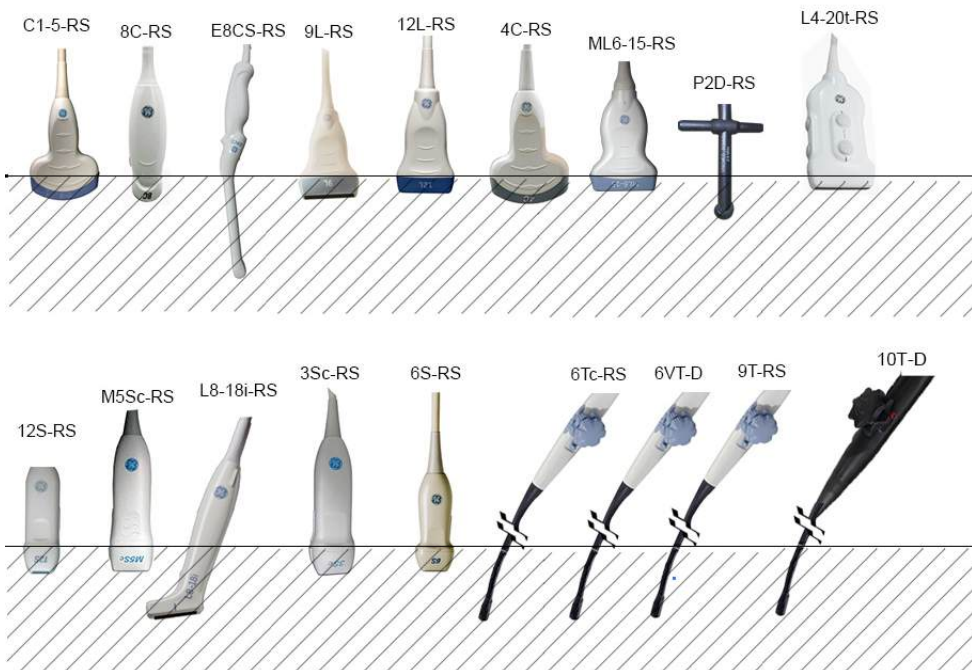

Figure 12-8. Probe Immersion Levels, 1=Fluid Level
1. Ensure the probe has been disconnected from the console. Put on a clean pair of gloves and fill a sink or basin with warm potable water (30 - 40°C) to a level allowing immersion of the probe up to the immersion line shown in Figure 12-8 on page 12-45.
3. Immerse the probe in the prepared cleaning solution up to the immersion line and ensure no air bubbles are trapped on the surface. Do not submerge probe beyond the immersion line shown in the user manual and in Figure 12-8 on page 12-45.
1. Ensure the probe has been disconnected from the console. Put on a clean pair of gloves and fill a sink or basin with High-Level Disinfectant diluted in accordance with the disinfectant manufacturers instructions to a level allowing immersion of the probe up to immersion line shown in Figure 12-8 on page 12-45.